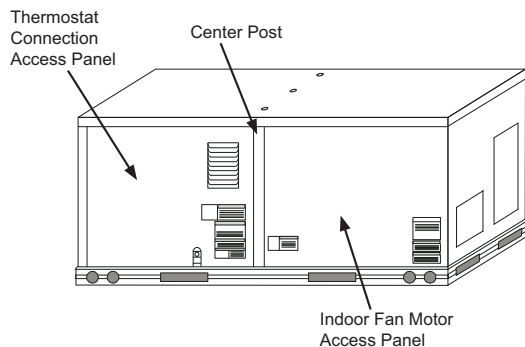

Fig. 19 - Typical Indoor Fan Motor Access Panel Locations
12. Remove indoor fan motor access panel (See Fig. 19).